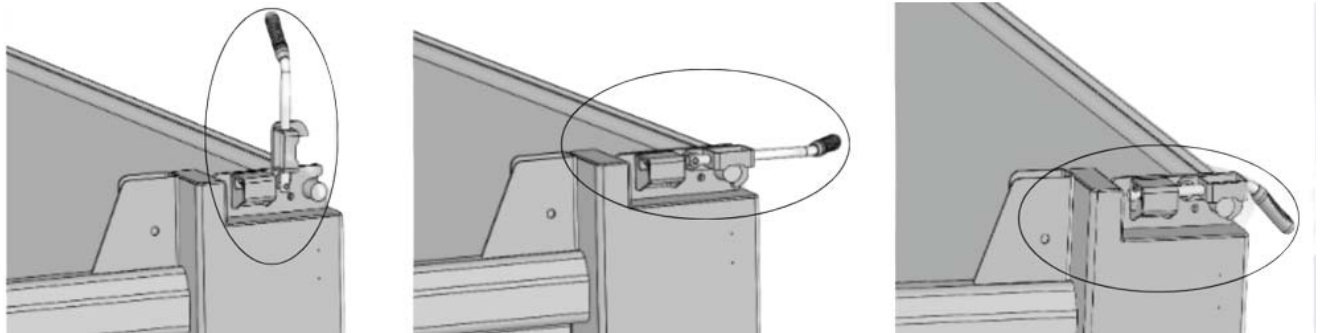

FIGURE 5
- Rotate the handle until the pin and latch hole are not aligned as shown in Figure 5.